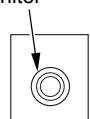

Figure 43 - Setting the Selector Switch and Control Knob for Hand-Held Remote Operation
1. After lighting, let pilot flame burn for about one minute. Turn control knob to ON position. Slide the remote selector switch to the REMOTE position (see Figure 43). **Note:** The burner may light if hand-held remote was on when the remote selector switch to the REMOTE position. You can now turn the burner on and off with the hand-held remote control unit.